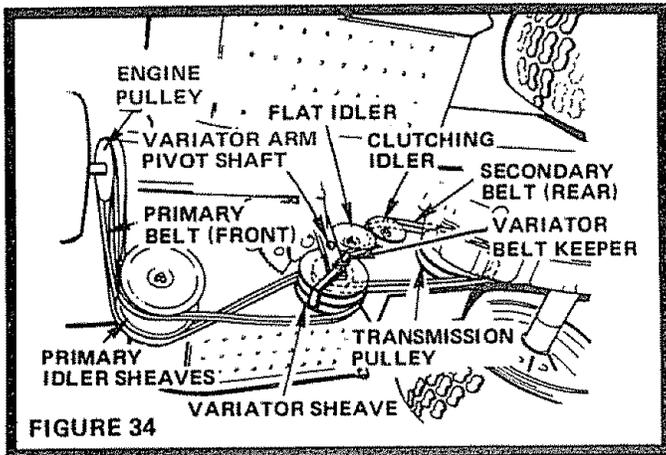

FIGURE 34
- Remove Primary Belt from Engine Pulley (Fig. 34).
- Remove Klip Ring and Washer from Variator Pivot Shaft (Fig. 34). Slide Pivot Arm inwards.
- Remove Idler Nuts and Idler Sheaves from Primary Idler Sheaves (Fig. 34).
- To replace Secondary (Rear) Belt move Varidrive Control Lever to fast position. Remove Variator Belt Keeper (Fig. 34) and remove Secondary Belt from Variator.
- Remove Clutching Idler (Fig. 34).